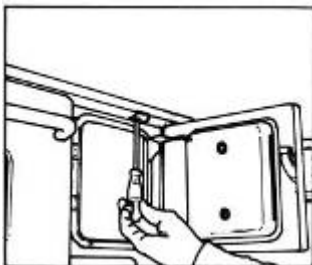

Fig. 29
- Insert the heat sink probe in the fully into the immersion shell (Fig. 29 + 30 C).
- clamp the protective tube firmly in the immersion shell (Fig. 29 + 30 D).
Two screws underneath the front on the stove frame are already installed for attaching the stove bar (Fig. 29).
- lay one end of the bar on the fire door (Fig. 29).